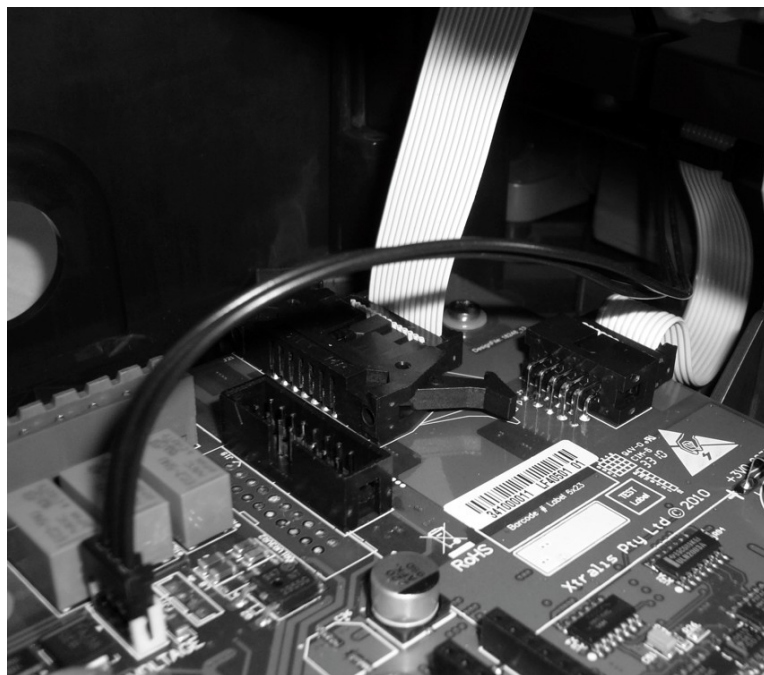

Figure 7-12: Disconnect Ribbon Cable
9. Unlock the connection arms and disconnect the ribbon cable from the main board (Figure 7-12).
2. Plug the ribbon cable from the chamber into the main board (Figure 7-12). Ensure that the cable connector is fully in and arms are locked.